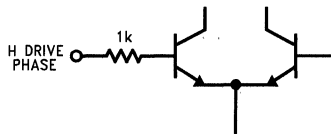

FIGURE 14
**H DRIVE PHASE (Pin 23):** A control voltage applied to this pin sets the phase of the flyback pulse with respect to the leading edge of H sync. See *Figure 14* for the input schematic.